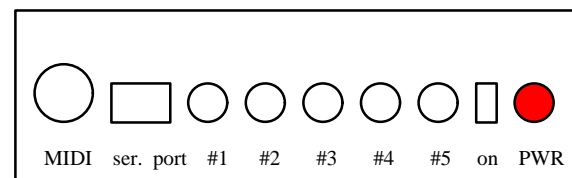

Figure 5: View of rear of TSS
5. Attach the **12-V AC** Adapter to the POWER jack on the TSS. The TSS POWER jack is located next to the “ON” switch. Then, plug the adapter into a wall outlet (Figure 5).